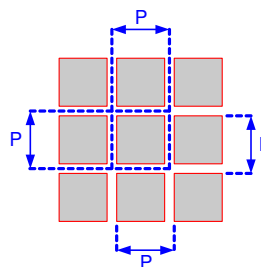

Figure 6-9. Micromirror Array Physical Characteristics
(1) See Figure 6-9
(2) The structure and qualities of the border around the active array includes a band of partially functional micromirrors referred to as the pond of micromirrors (POM). These micromirrors are structurally and/or electrically prevented from tilting toward the bright or ON state but still require an electrical bias to tilt toward the OFF state.